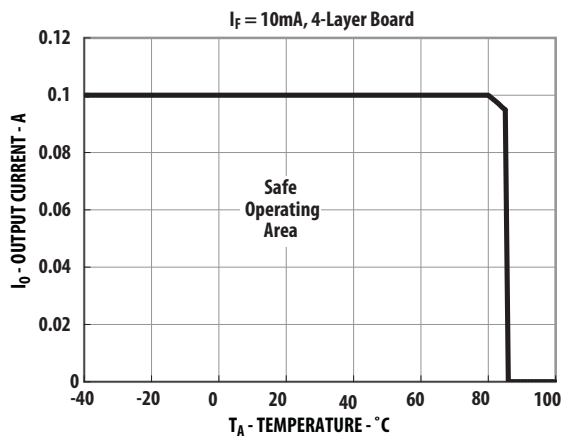

Figure 1. Maximum Output Current Rating vs Ambient Temperature (ASSR-4118-003E)
- For derating, refer to Figure 1, 2, 3 and 4.
Figure 1, 2, 3 and 4 specify the maximum average output current allowable for a given ambient temperature. The maximum allowable output current and power dissipation are related by the expression  $R_{ss} = P_o(max) / (I_o(max))^2$  from which  $R_{ss}$  can be calculated. Staying within the safe area assures that the steady state MOS-FET junction temperature remains less than 125 °C.